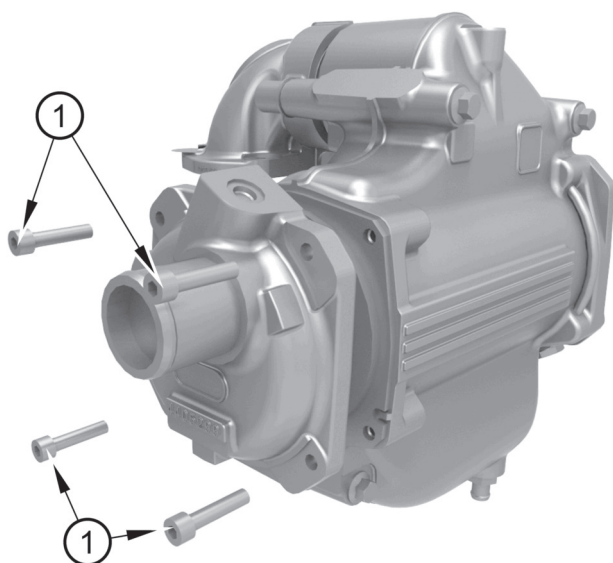

Figure 26
6. Remove the endcap by undoing the bolts (figure 26 item 1).